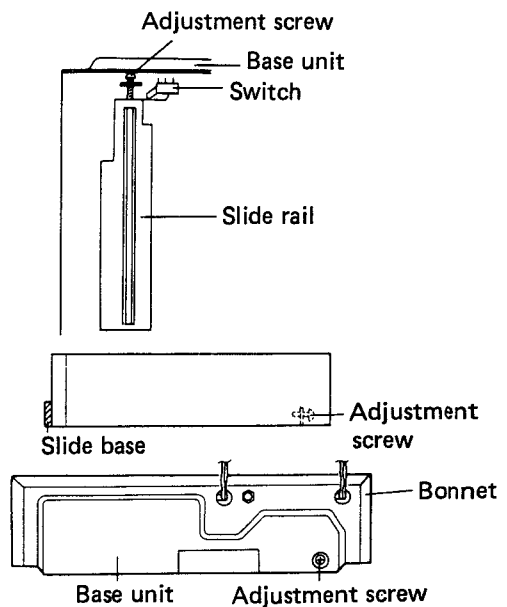

Fig. 1-5 Slide base position adjustment
2. Then while pushing the drive lever rack and slider towards the front panel, insert gear (F) into the escutcheon cover gear (F) mounting boss. Be careful not to push the slider too firmly (towards the front panel) since the slide base cover might also move.
3. Secure gear (F) by screwing in the relevant screws. After tightening the screws, press against the top of the door to check that the door is not loose.
- D. This adjustment simply involves turning the adjustment screw from the rear of the turntable as shown in Fig. 1-5. A full turn of the screw changes the slide base position by about 0.5mm.
- 6. Undo screws ⑤ and remove the lead guide. Then without applying too much force, carefully disconnect the leads from the tonearm and phono motor.
- 7. Remove the tonearm section by undoing screws ⑥.